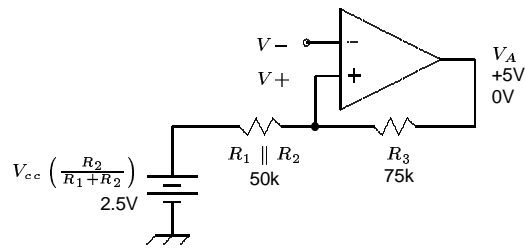

Figure 28: Schmitt Trigger Equivalent Circuit
- The circuit is basically a Schmitt Trigger with additional parts to make it into an oscillator. The positive feedback is from the output via R3. The values of R1, R2 and R3 determine the trip thresholds for the Schmitt. To see this, thevenize the voltage divider R1 and R2: they become a 2.5 volt source with an internal resistance equal to $R1 \parallel R2$, ie $50k\Omega$. Then the Schmitt trigger is as shown in figure 28.